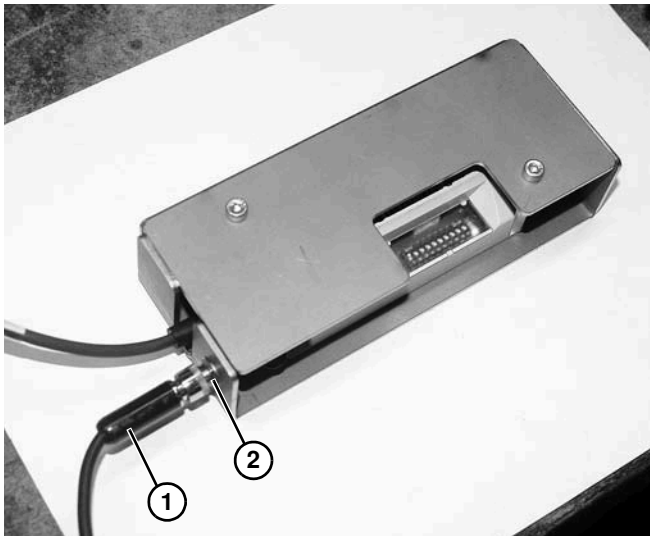

Figure 96
1. Disconnect quick disconnect end (**Figure 96, item 1**) of power supply from power jack (**Figure 96, item 2**).